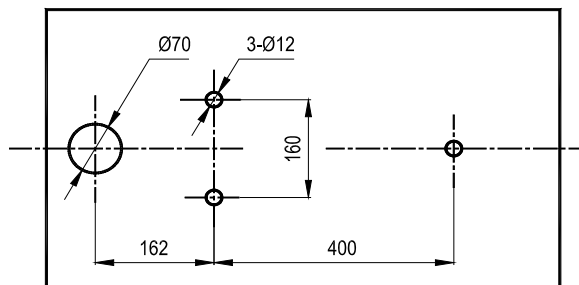

Figure 4.1
- 4.3 Place the tester on a prepared platform, turn the hand wheel counter-clockwise to lower the anvil, remove the anti vibration pad; then place a precise level on the anvil, adjust the leveling feet of tester to make the level within 1mm/m, then lock the nuts. It is recommended that the machine be secured to the top with three M10 bolts, screwed into the undersurface of the machine housing. Refers to figure 4.1.